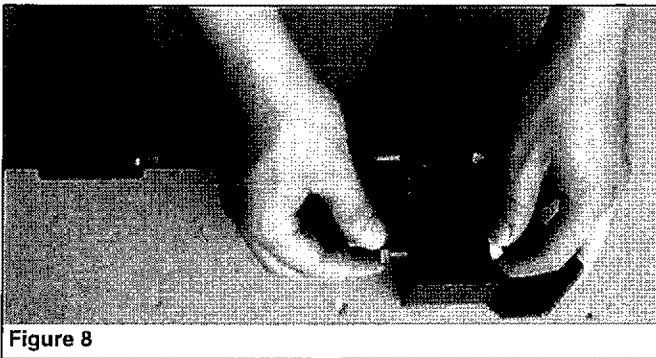

Figure 8
- Loosen and remove the bolt and hex nut from the bracket (see Figure 8)